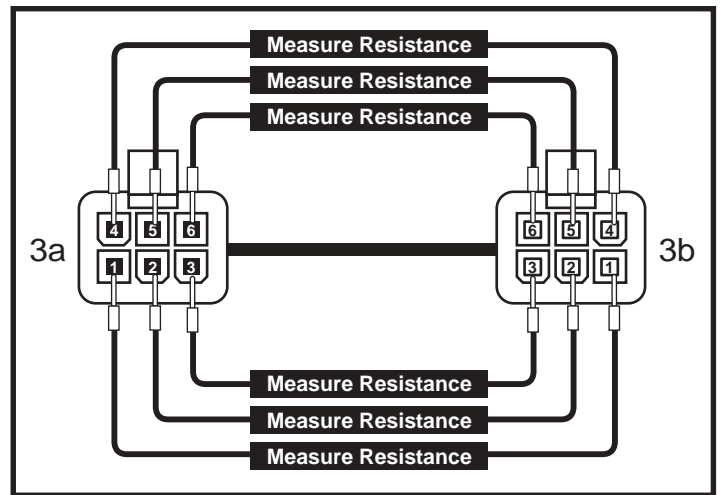
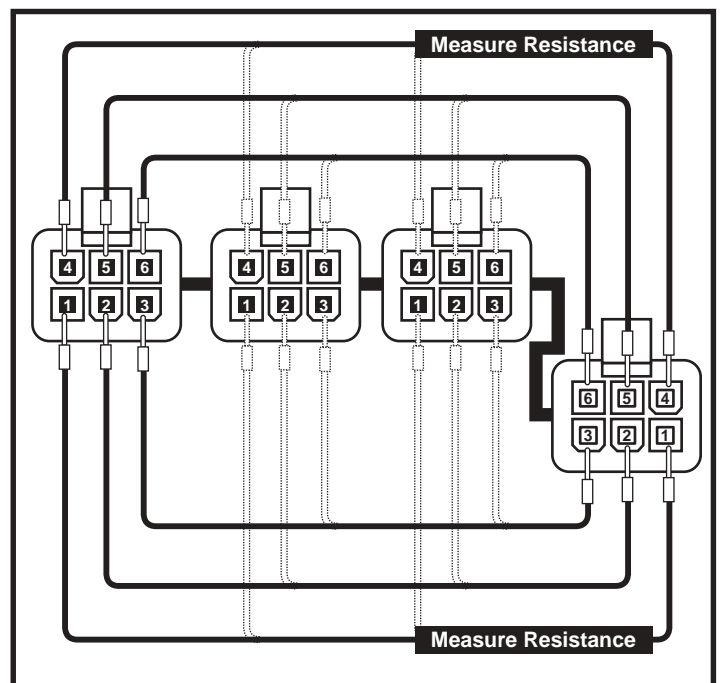

Figure 16. Bus Cables (3)
Figure 17. Splitter or Multiplier Bus Cables
2. Measure resistance on the bus cables. **See figure 16.**
- If your multimeter indicates an open for any of the measurements, then replace the bus cable (3) and retest the system.
4. Measure resistance on the splitter or multiplier bus cables. **See figure 17.**